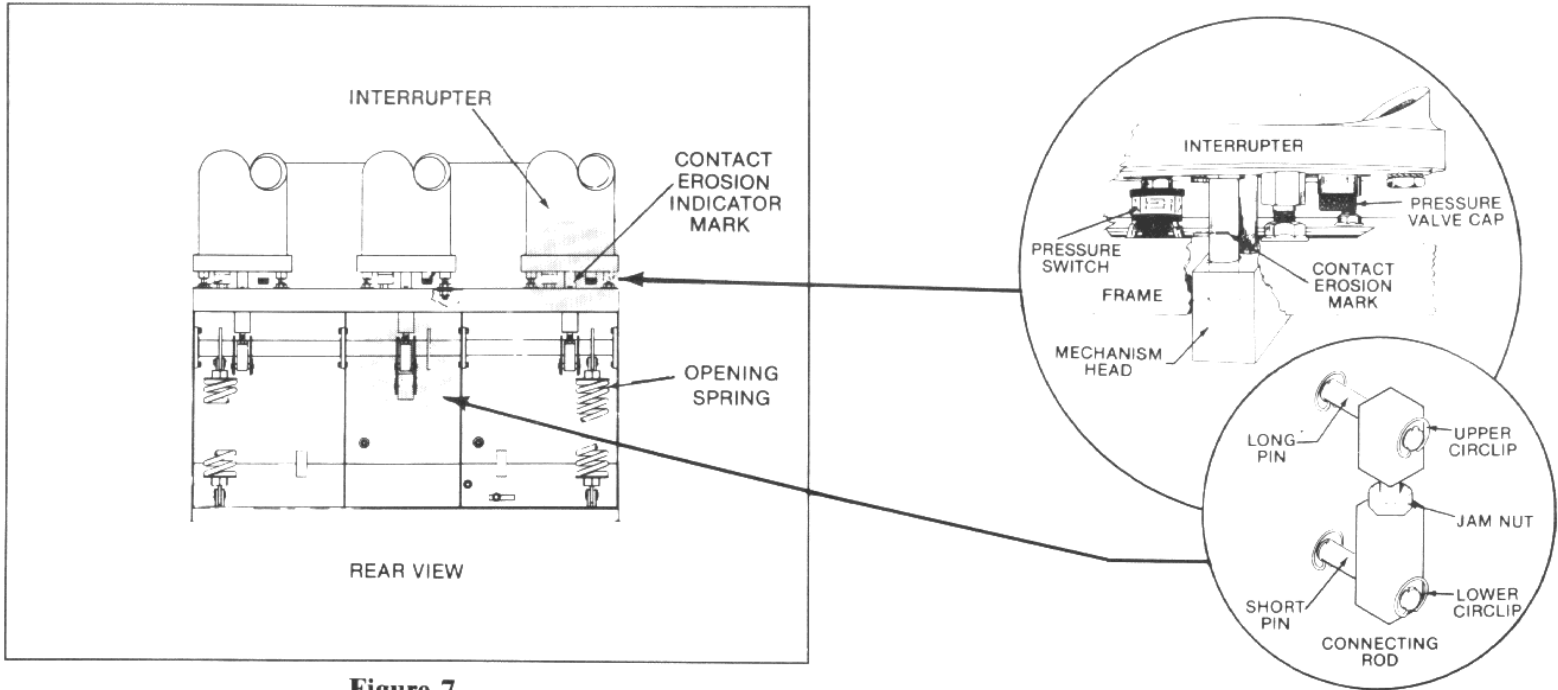

Figure 7
Gas pressure can be tested at a pressure valve located at the bottom of the bottle (Figure 7). It is recommended that this practice be kept to a minimum (5 year intervals) because the gas lost during a pressure check will be greater than that expected over several years normal service.
NOTE: The upper and lower pins of the connecting rod are different lengths. The shorter pin is used at the lower position as shown in Figure 7.
3. Identify the location of the connecting rod in figures 7 and 8. See Figure 7 for connecting rod details. This device is to be removed as follows.
9. A pressure switch (PS) is located at the bottom of each interrupter (Figure 7). The switch is designed to operate when the gas pressure falls below 29.4 psig.